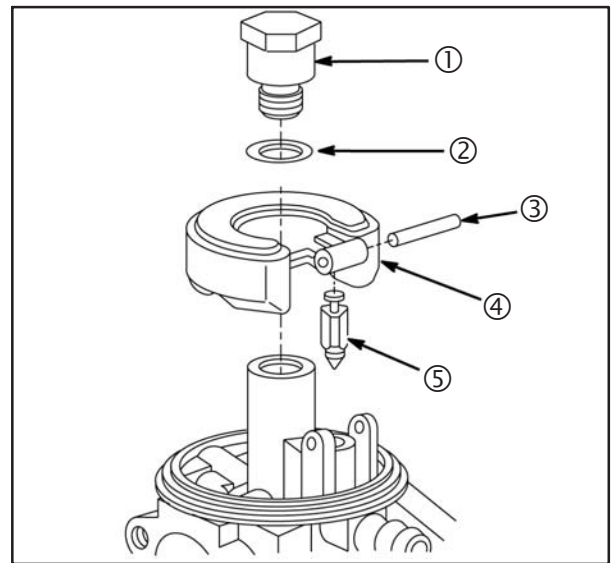

**Fig. 125 – Throttle Shaft**
1. Apply Anti-Seize to the mounting surfaces of the sleeves (Figure 125) ①. Place the sleeves and rubber bushings ② together on the midsection.